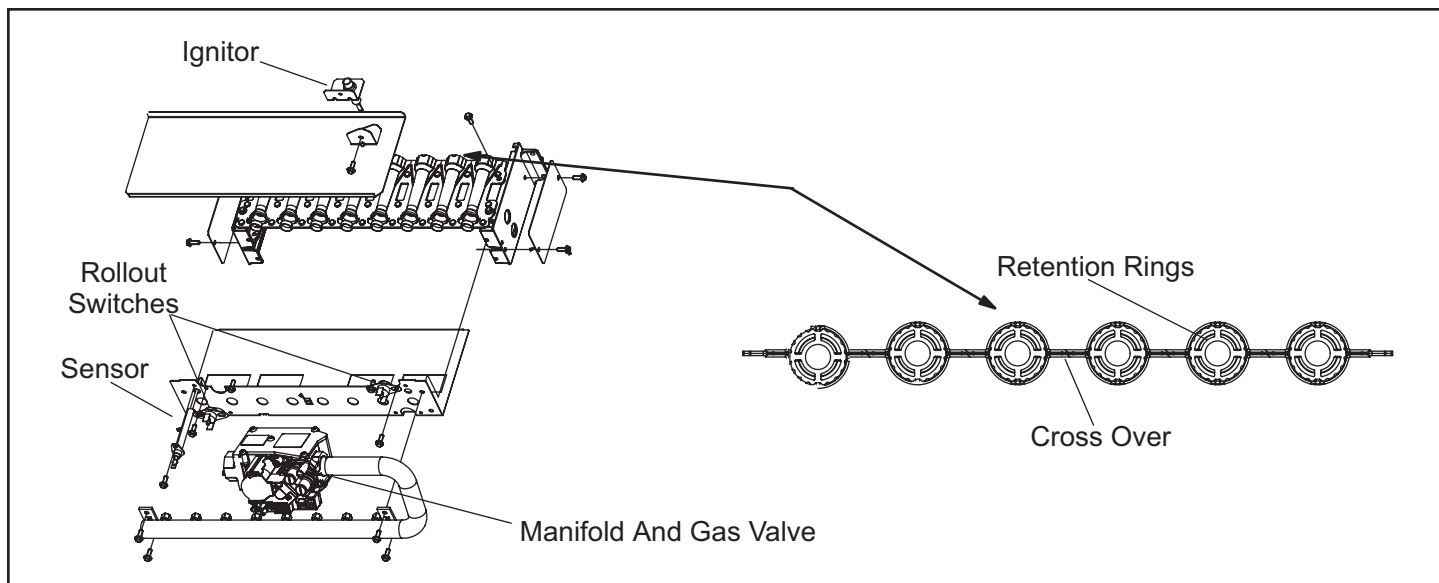

Figure 39. Burner Removal
4. To clean burners, run a vacuum cleaner with a soft brush attachment over the face of burners. Visually inspect inside the burners and crossovers for any blockage caused by foreign matter. Remove any blockage. Figure 39 shows burner detail.